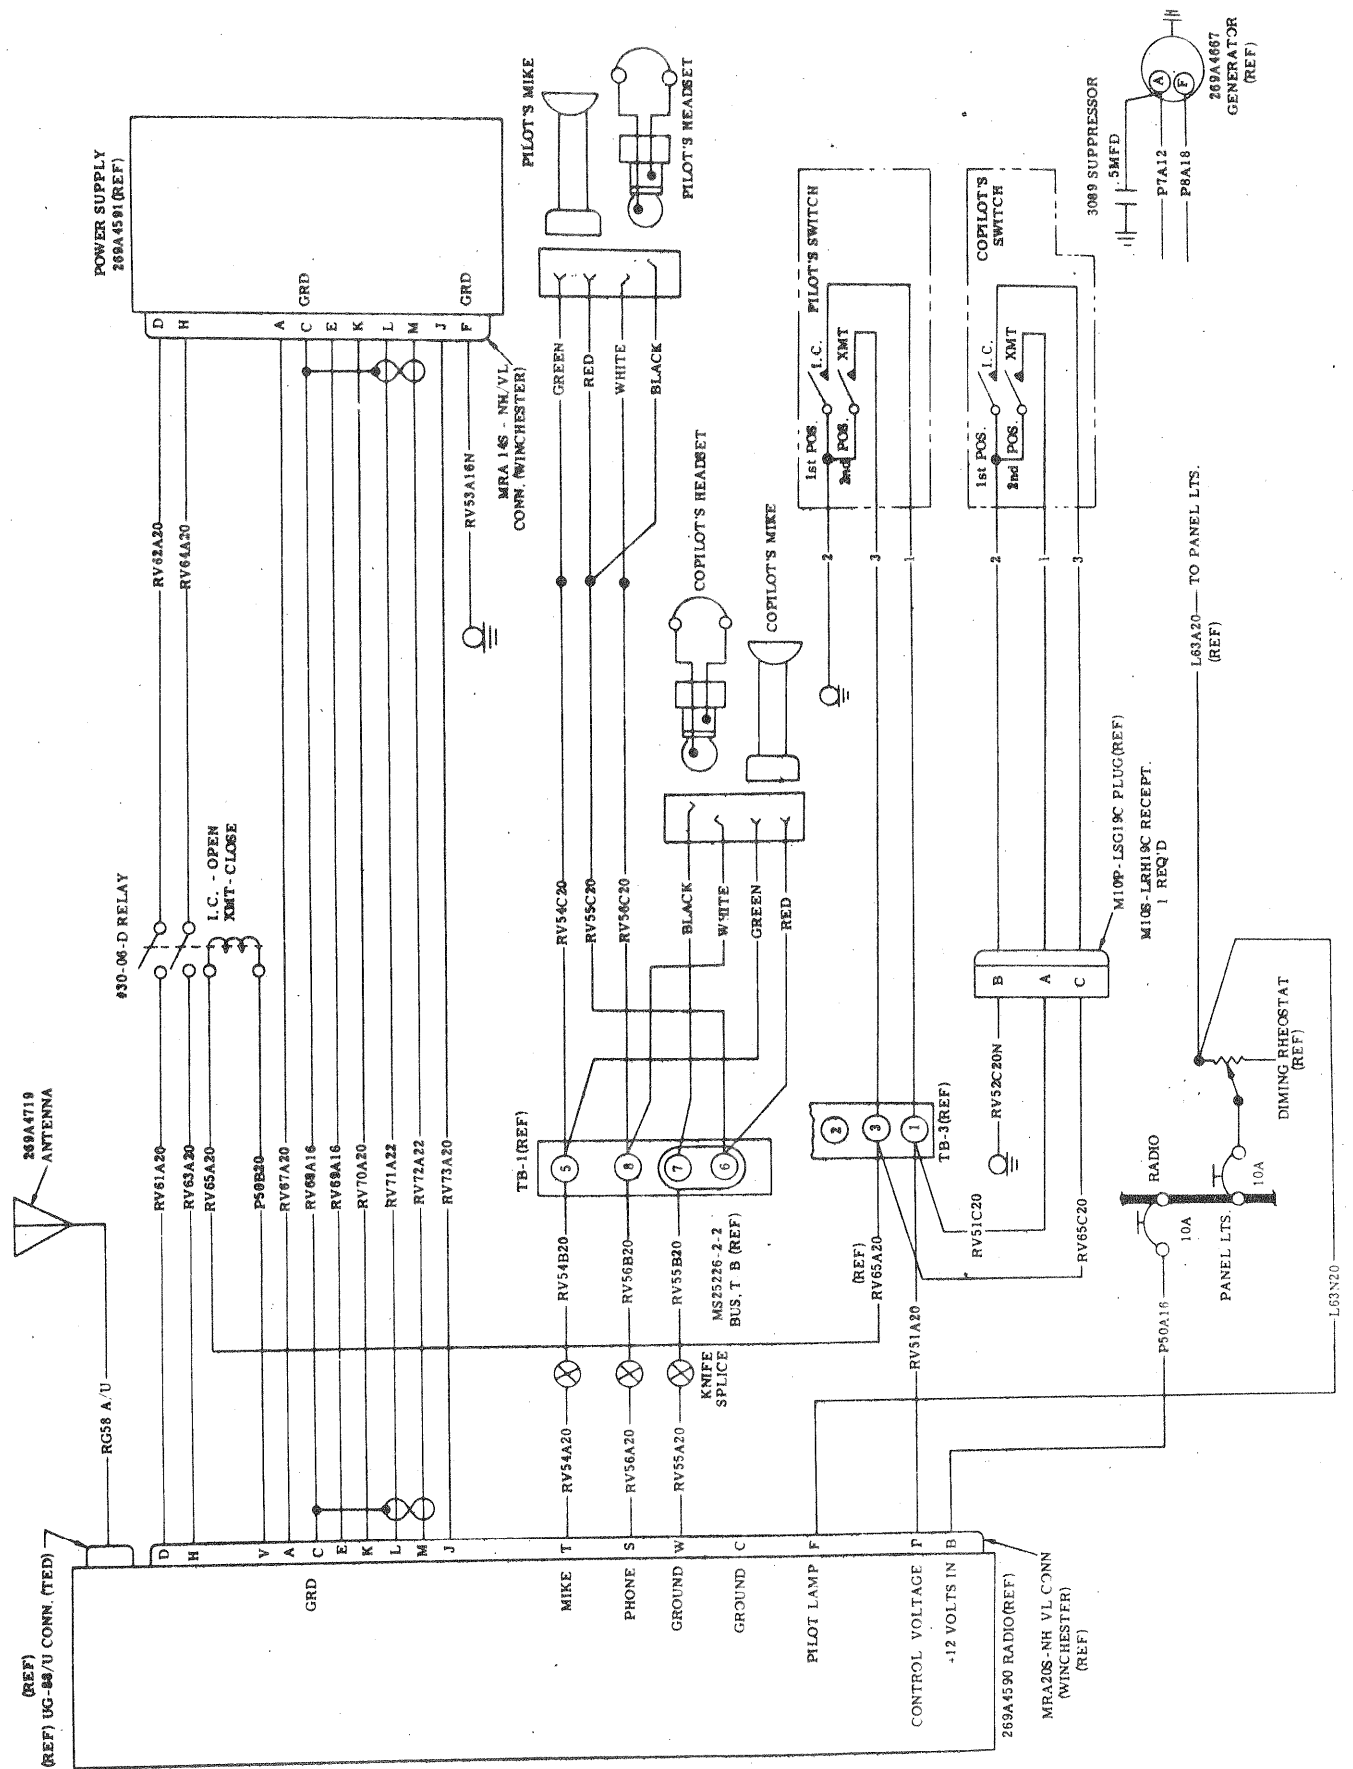

FIGURE 1. KING RADIO ELECTRICAL WIRING DIAGRAM.
- i. Remove existing wire nos. RV61A20 and RV62A20 from #30-06-D relay and splice together. (See figures 1 and 2)